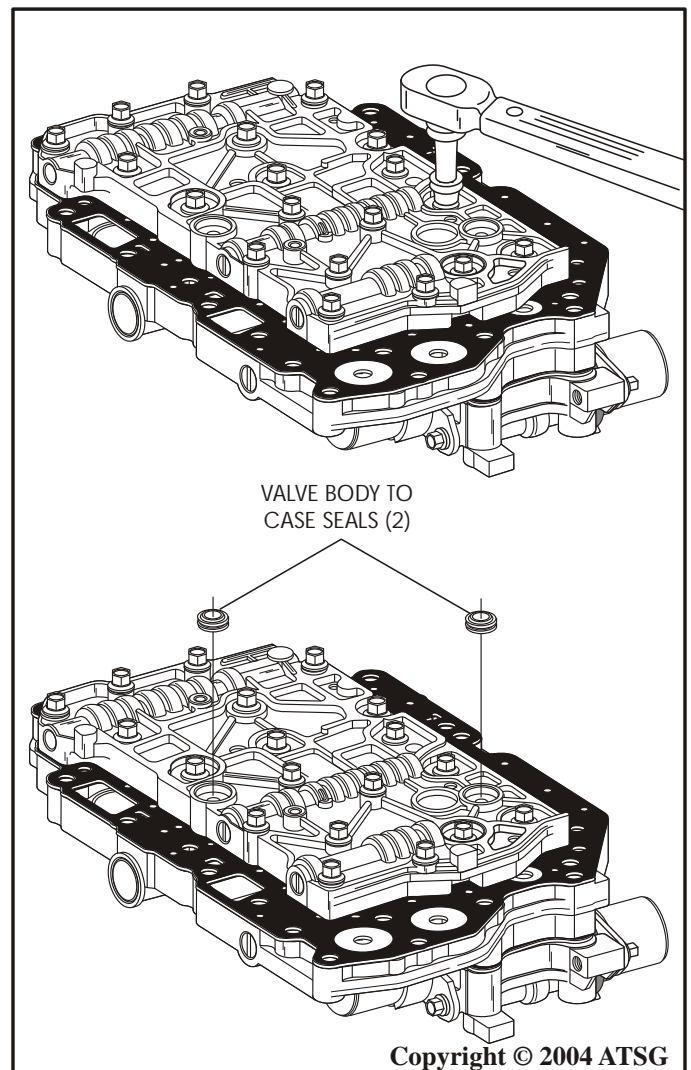

Figure 109
18. Now you can torque all valve body bolts to, 9 N•m (80 in.lb.), as shown in Figure 109, and install two new valve body to case seals.